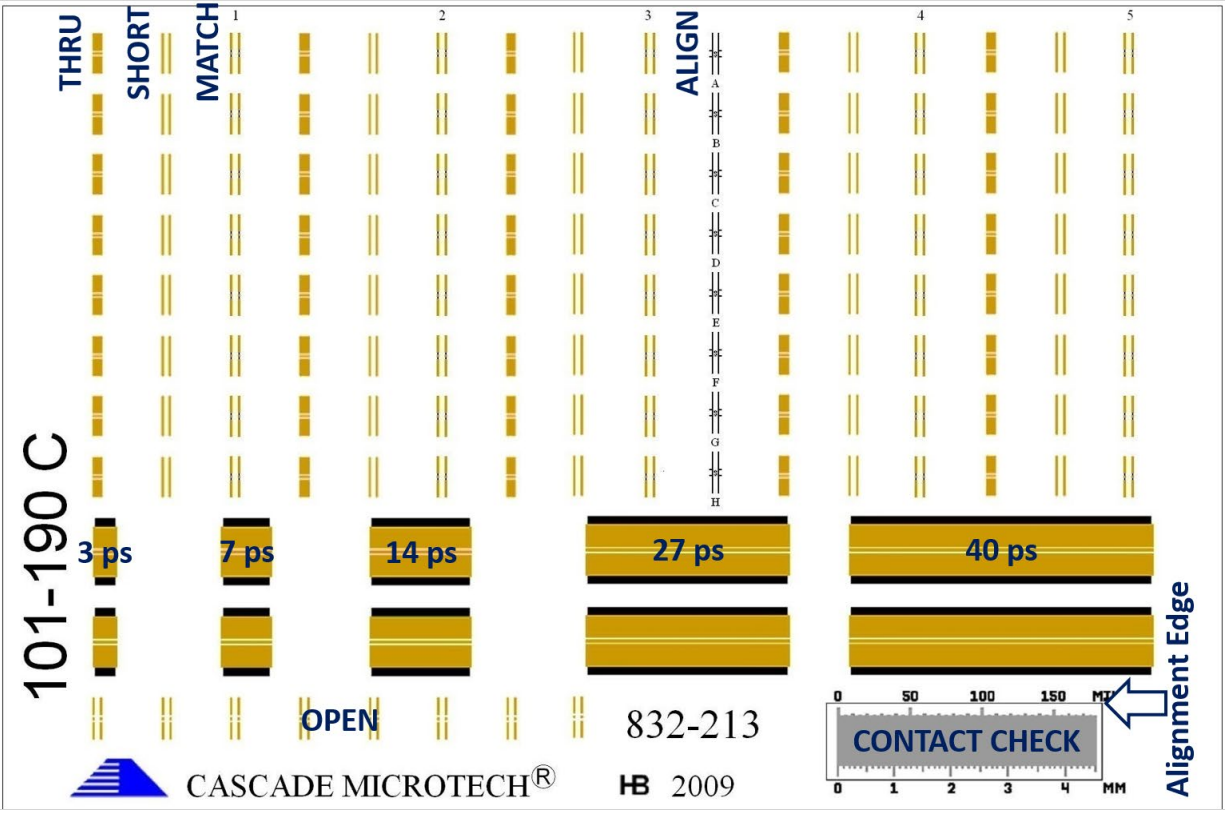

Fig. 5.2. CASCADE 101-190 impedance-standard substrate (ISS).
- 5.7 Move the chuck so that you can see through the microscope the "alignment edge" on the lower right of the ISS (Fig. 5.2). **Never allow the probes to touch and scratch the ISS in this step!** Otherwise, you may damage both the probe and the ISS.
- 6.3 Locate the specified set of impedance standards on the ISS (Fig. 5.2). **Do not touch other sets of impedance standards!** Each set of impedance standards can only be probed for about 20 times.
- 7.8 To check the probe contact resistance, locate the "CONTACT CHECK" pattern on the lower right of the ISS (Fig. 5.2). Gently lower the z-lever to land both probes on "CONTACT CHECK," observing that the probe tips skate by the amount set in Sec. 6.